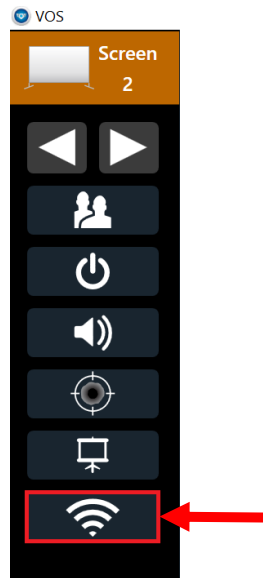

Fig. 4
- a. Open the Accessory Control interface from the quick bar as shown below (Fig. 4).